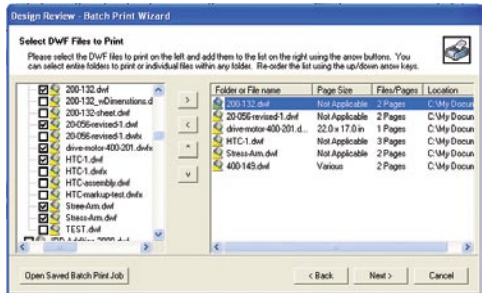

Figure 13
1. Select File>Batch Print Wizard. (Figure 13)